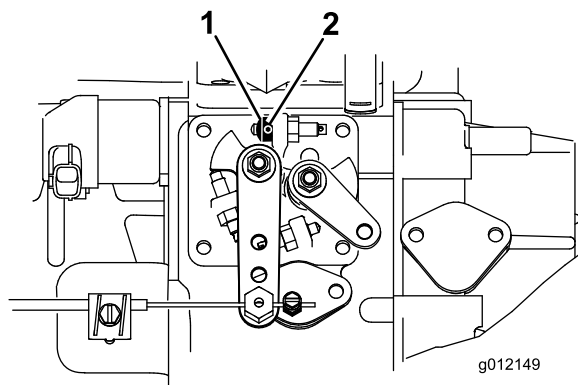

Figure 8
1. Loosen the set screw on the throttle stop (Figure 8).
2. Slide the throttle stop onto the high-idle stop screw (Figure 8). The chamfered end of the throttle stop is to be positioned outward.